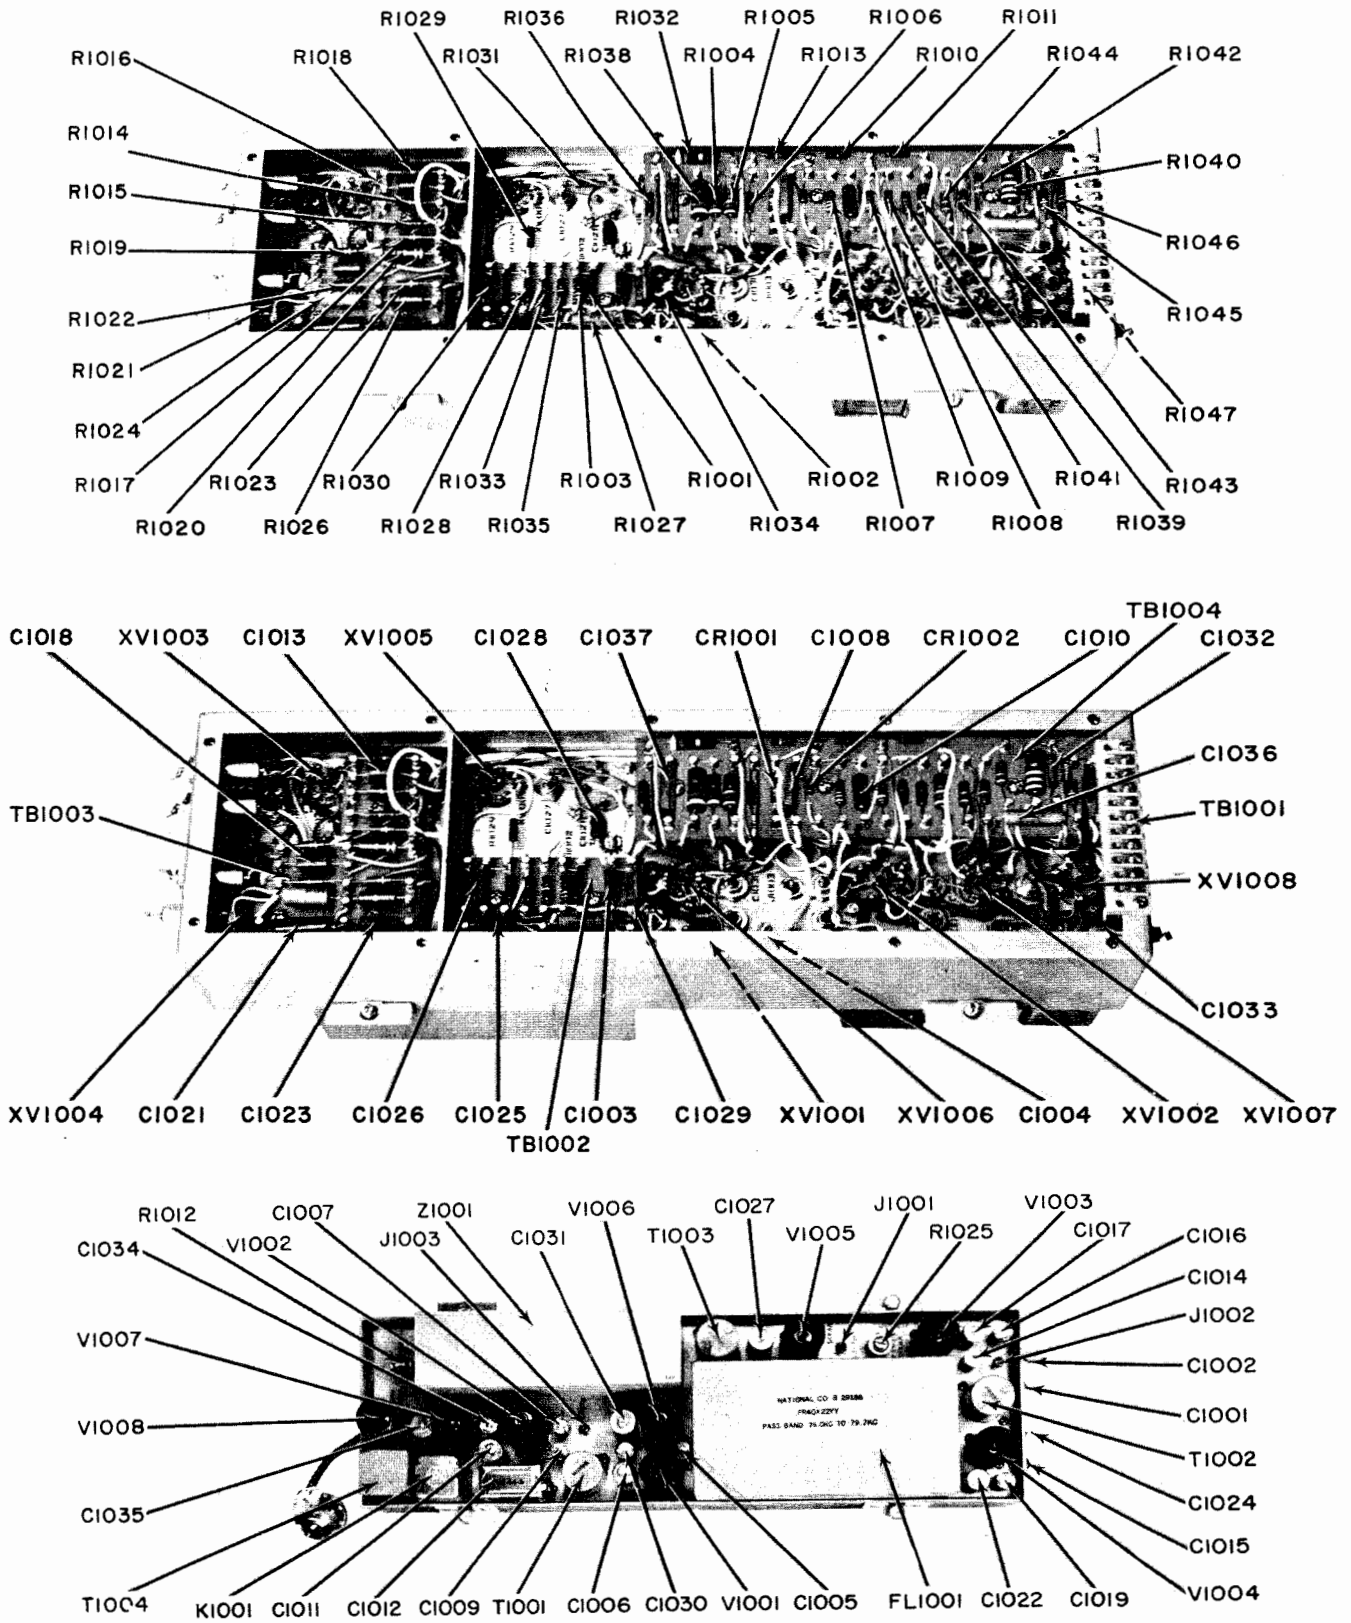

Figure 5-50. USB Detector-Amplifier, Location of Parts
b. ACCESS.—The USB detector-amplifier is located in the lower demodulator deck. For access to the top, raise the upper demodulator deck; for access to the bottom, tilt the entire demodulator drawer. Figure 5-50 gives the location of parts.
- (1) Seating of tubes V1001 through V1008 in their sockets
- (2) Cable connections J1001 through J1003 and TB1001
- (3) Soldered connections at chassis feed-through terminals